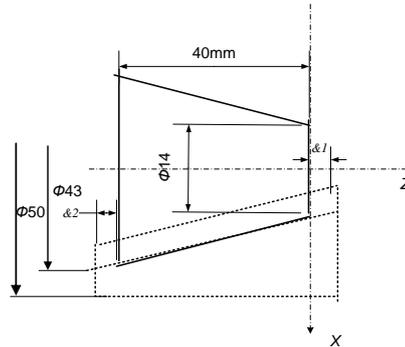

Figure II-11 Taper thread cutting
- **Taper thread cutting (as shown in Figure II-11)**